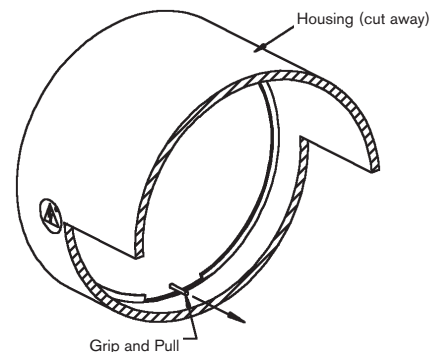

FIGURE 17 Installing the Pull Seal
4. Reach into the housing and grip the pull seal's *long end* from the back of the front face plate. Steadily pull the *long end* until the head of the pull seal is flat against the front of the end cap. See FIGURE 17.